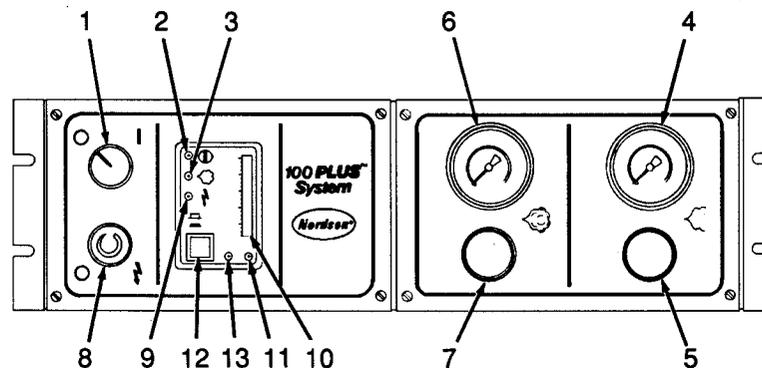

Figure 8 - Operating Controls And Indicators
1. Refer to Figure 8. Turn cable power switch (1) ON. Power (2) and air (3) indicators will light. Solenoid will be energized, allowing atomizing and flow rate air to flow to feed hopper powder.